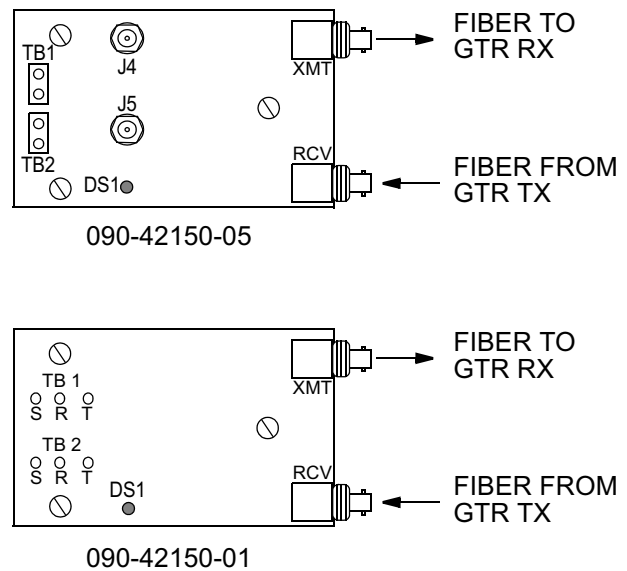

Figure 37. GTI Fiber I/O Module
4. Two-port Fiber I/O Module. Mounted and connected to J9 (I/O A) on the DCD-LPR for the GTR which has a corresponding GTI card installed in Slot A, and to J10 (I/O B) for a GTR which has a corresponding GTI card installed in Slot B. See also Figure 37.
4.21 There are two fiber optic cable connections (XMT and RCV) to the DCD-LPR via the GTI fiber I/O module(s) (Figure 37). GTI fiber I/O modules are installed on connectors labeled “I/O A” and “I/O B” (J9 and J10) on the DCD-LPR backplane (Figure 31B).